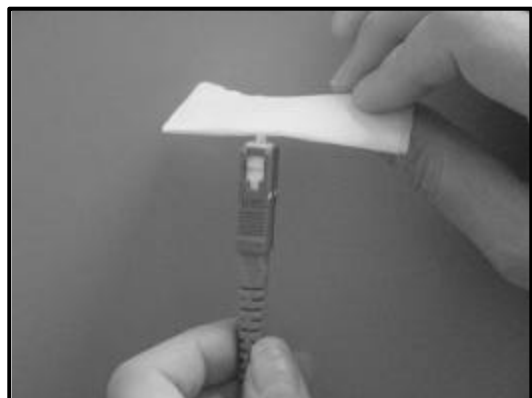

Fig.4 – Lens tissue
3. Hold the fiber by the connector or cable as shown in the Figure 4 below. Place the wet portion of the lens tissue on the optical surface and slowly drag it across.